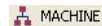

Figure 8-3: Hierarchical Block Icon
- Open the Technology Viewer by using the **View Technology Schematic** process for the latest generated netlist in the **Start with the Explorer Wizard** mode. Select the hierarchical block icon (see Figure 8-3) and create the schematic.
- Open the previously stored default_run.ngc netlist by selecting **File > Open**. Select the **Start with the Explorer Wizard** mode. Project Navigator loads the netlist and starts the Schematic Viewer Wizard. Using the wizard, select the **MACHINE** hierarchical block icon (Figure 8-3) and create the schematic.